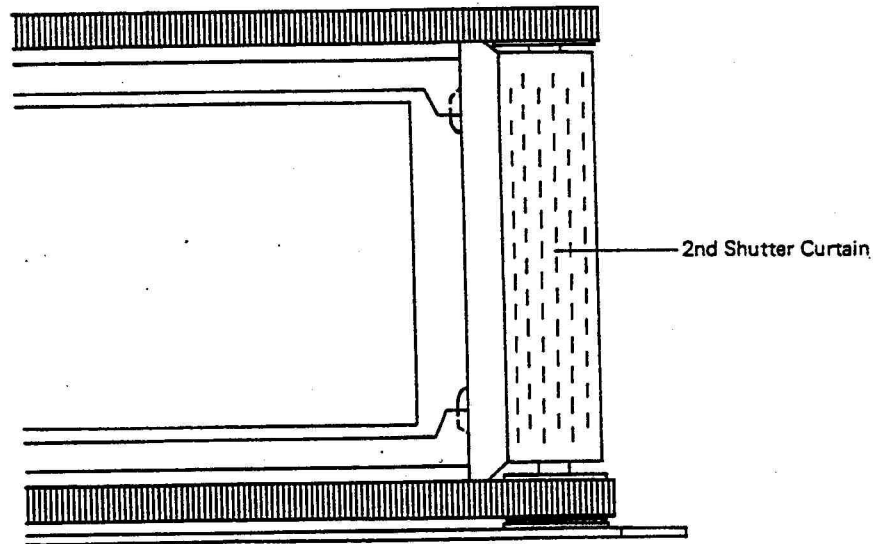

Fig. 29
- The metal edge of the 2nd shutter curtain should be located on the center of  as shown in (fig. 29).